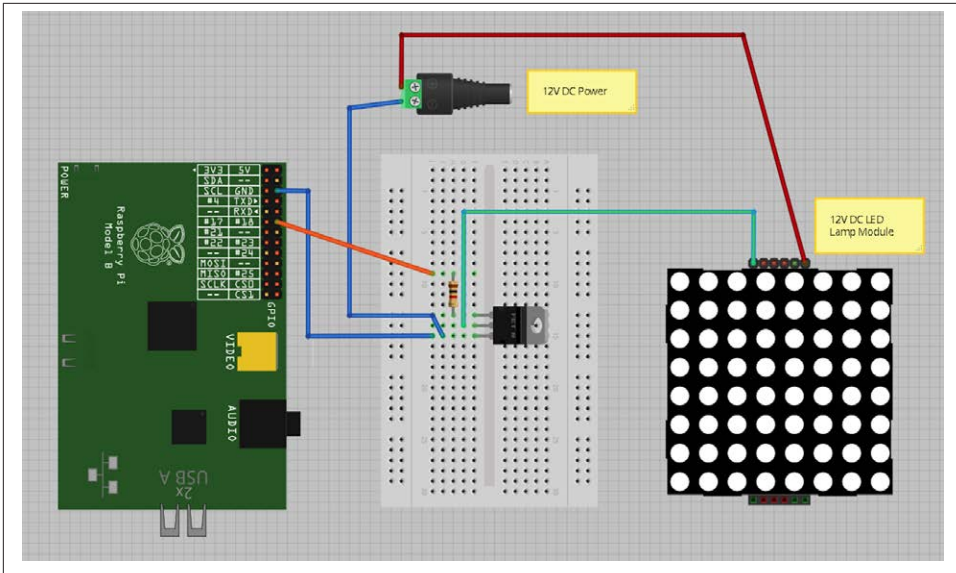

Figure 9-4. Controlling large currents with a MOSFET
**Figure 9-4** shows how you can connect a MOSFET on a breadboard. Make sure that you correctly identify the positive and negative supply leads for the LED module.